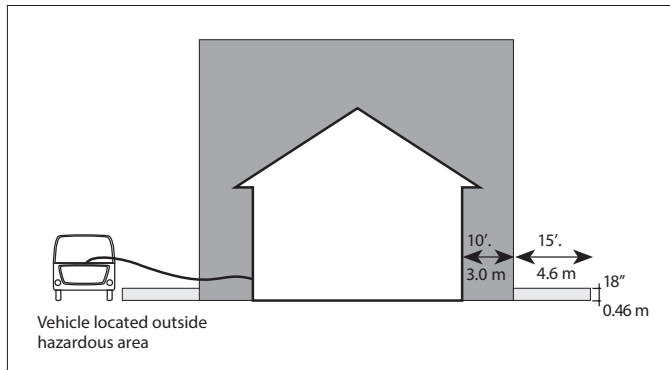

Figure 7 – Vehicle location
1. Class I, Division 1 (Zone 1), within the building. Refer to Figures 7 and 8, page 7.
2. Class I, Division 2 (Zone 2), up to 10 ft (3 m) from the building in any direction. Refer to Figures 7 and 8, page 7.
3. Class I, Division 2 (Zone 2), between 10 ft (3 m) and 25 ft (7.6 m) from the building in all directions at an elevation of 18" (0.45 m) above the ground. Refer to Figures 7 and 8, page 7